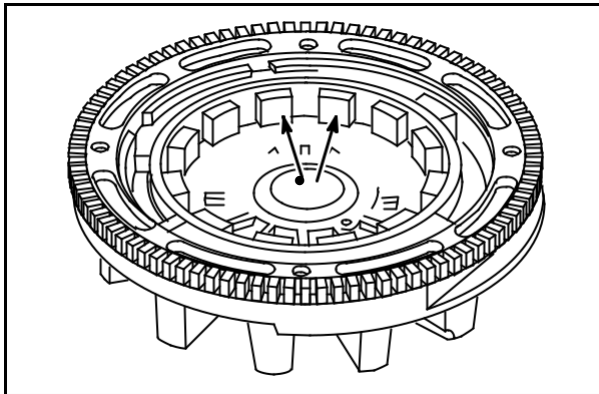

Fig. 7
The V-Twin flywheels have a ring of magnets (1) on the inside of the flywheel, **Fig. 7**, that provides the magnetic field for the charging systems. The size of the magnet determines the alternator output.